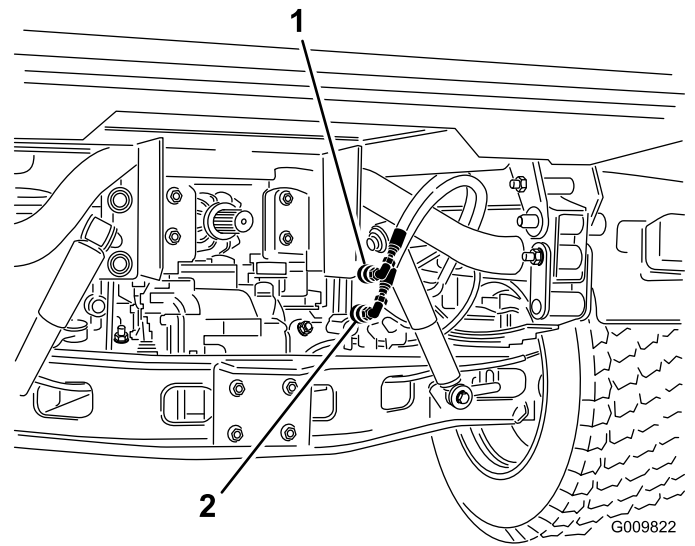

Figure 76
2. On both machine, disconnect the 2 quick-coupler hoses from the hoses secured to the coupler bracket (Figure 76).